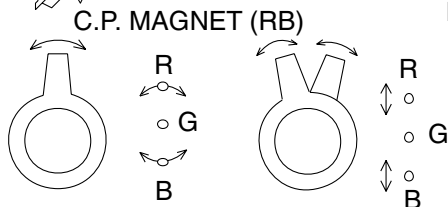

Fig. 9
2. Loosen the Ring Lock and align red with blue dots or Crosshatch at the center of the screen by rotating (RB) C.P. Magnets. (See Fig. 9.)